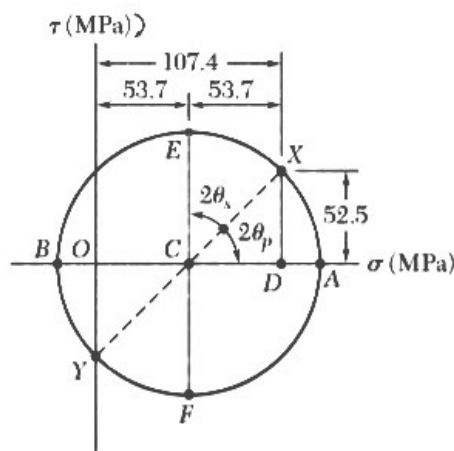
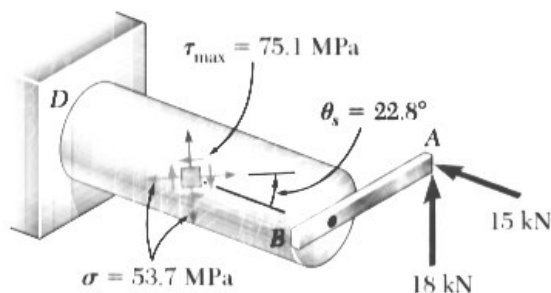

Fig. 8.25
Fig. 8.27
**b. Principal Planes and Principal Stresses at Point K.** We can use either of the two methods of Chap. 7 to determine the principal planes and principal stresses at K. Selecting Mohr's circle, we plot point X of coordinates  $\sigma_x = +107.4 \text{ MPa}$  and  $-\tau_{xy} = +52.5 \text{ MPa}$  and point Y of coordinates  $\sigma_y = 0$  and  $+\tau_{xy} = -52.5 \text{ MPa}$  and draw the circle of diameter XY (Fig. 8.25). Observing that
**c. Maximum Shearing Stress at Point K.** This stress corresponds to points E and F in Fig. 8.25. We have
Observing that  $2\theta_s = 90^\circ - 2\theta_p = 90^\circ - 44.4^\circ = 45.6^\circ$ , we conclude that the planes of maximum shearing stress form an angle  $\theta_p = 22.8^\circ \uparrow$  with the horizontal. The corresponding element is shown in Fig. 8.27. Note that the normal stresses acting on this element are represented by OC in Fig. 8.25 and are thus equal to  $+53.7 \text{ MPa}$ .